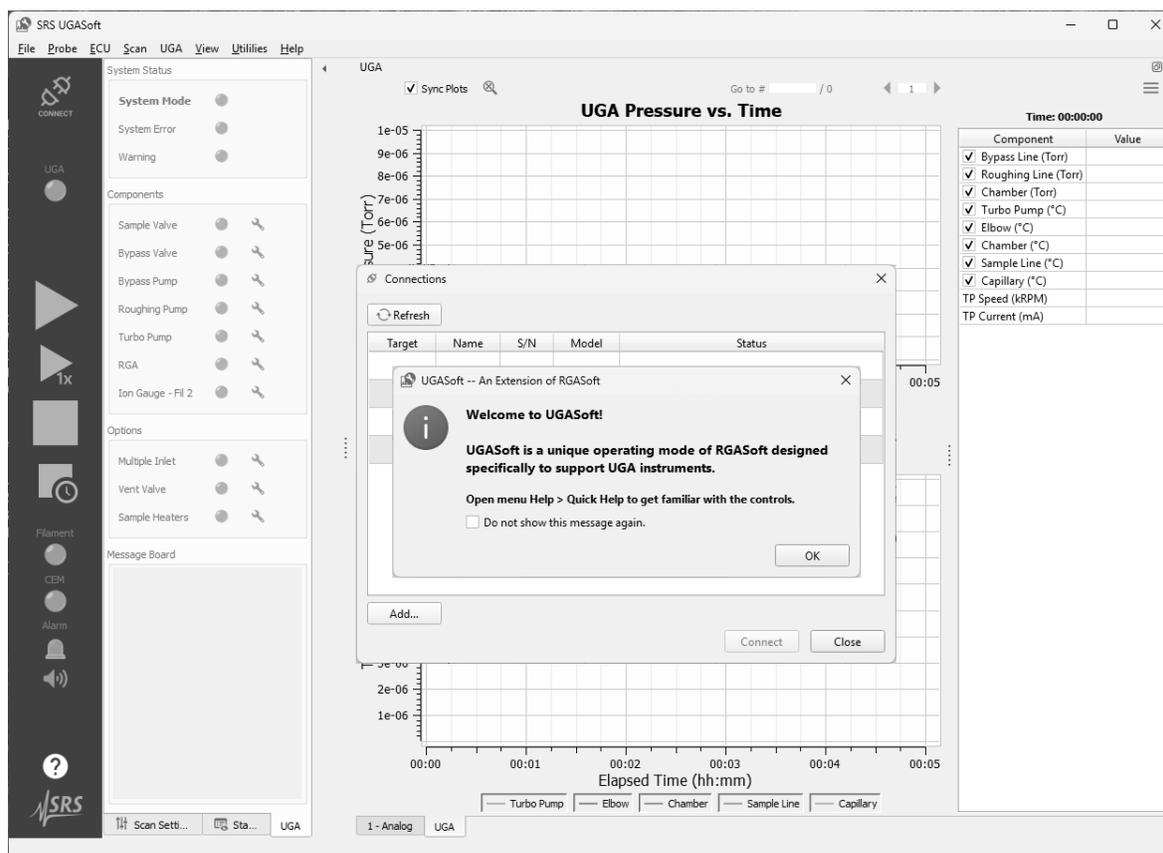

Fig. 2-3 Screenshot of the initial window of UGA control software.
A full featured software application included with the instrument provides an intuitive graphical user interface to the controls (See figure 2-3). All pumps, valves and heaters can be controlled from within the software. Every operation that takes place (valve open or close, pumps turned on or off, heaters activated, etc.) is logged as a time stamped “event” by the software. The event log is stored as a file on the PC hard drive. This log can be very useful for troubleshooting: if a user finds the UGA’s interlocks activated while he was away, the event log will show what gauge registered an overpressure and when. This allows the user to track exactly where a problem began instead of guessing what went wrong. This can save hours of time in debugging a vacuum process.
4. Select the “UGASoft” link to launch the software. It is located on the desktop (if added in the installation) and in the program group “SRS RGASoft”. Figure 2-3 shows a screenshot of a startup window.